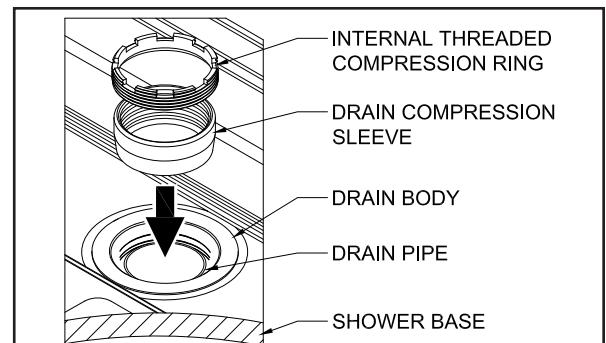

FIG. 7- FINAL DRAIN ASSEMBLY
4. Once securely set, finish installing the Drain Assembly (**SEE FIG. 7**). Lubricate the drain pipe and Drain Compression Sleeve, slide the Sleeve over the pipe, and tighten the Compression Ring to seal the drain. Make sure the drain seals properly to prevent leaking.